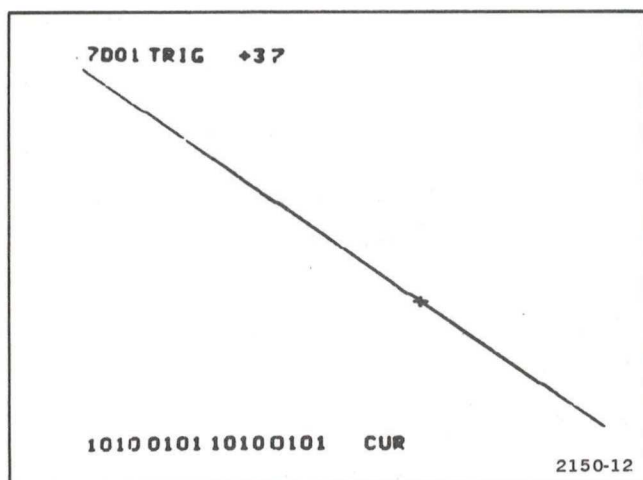

Figure 2-7. Typical map display of 16 channels from the 067-0804-00 Interface Test Fixture.
2. Press the MANUAL MAP push button. Check crt display for a diagonal line on the crt (see Fig. 2-7).